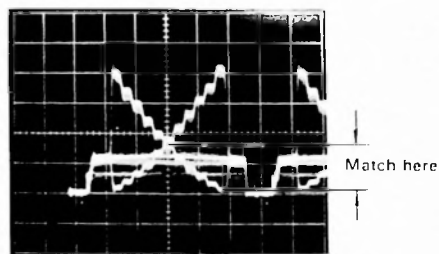

Fig. 4-4-40
- Connect the oscilloscope to TP213 (R) and TP214 (Y_L).
- Overlay the R. signal and the Y_L signal on the oscilloscope and confirm that the signal level between the black chip (zero step) and fifth step (crossing step) of the gray scale waveforms match. If not, adjust R. GAIN VR228 to match them. (Fig. 4-4-40)